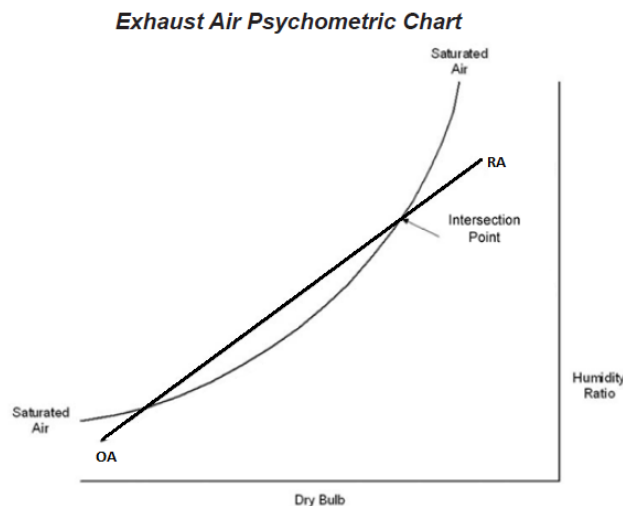

Figure 1: Exhaust Air Temperature Intersection Point
- Frost Prevention Control (selectable option) – The unit will monitor return air temperature and humidity, outside air temperature, and exhaust air temperature. Assuming an outdoor air relative humidity of 95% the unit will calculate the point at which condensate will develop in the exhaust air³ (see the intersection point in figure 1 below). When the exhaust air reaches this temperature the wheel will begin to start/stop (no VFD is included) or modulate (VFD is included) to reduce the effectiveness of the wheel and avoid frost buildup. This allows the wheel to remain on at these frost prevention times and still recover some energy.